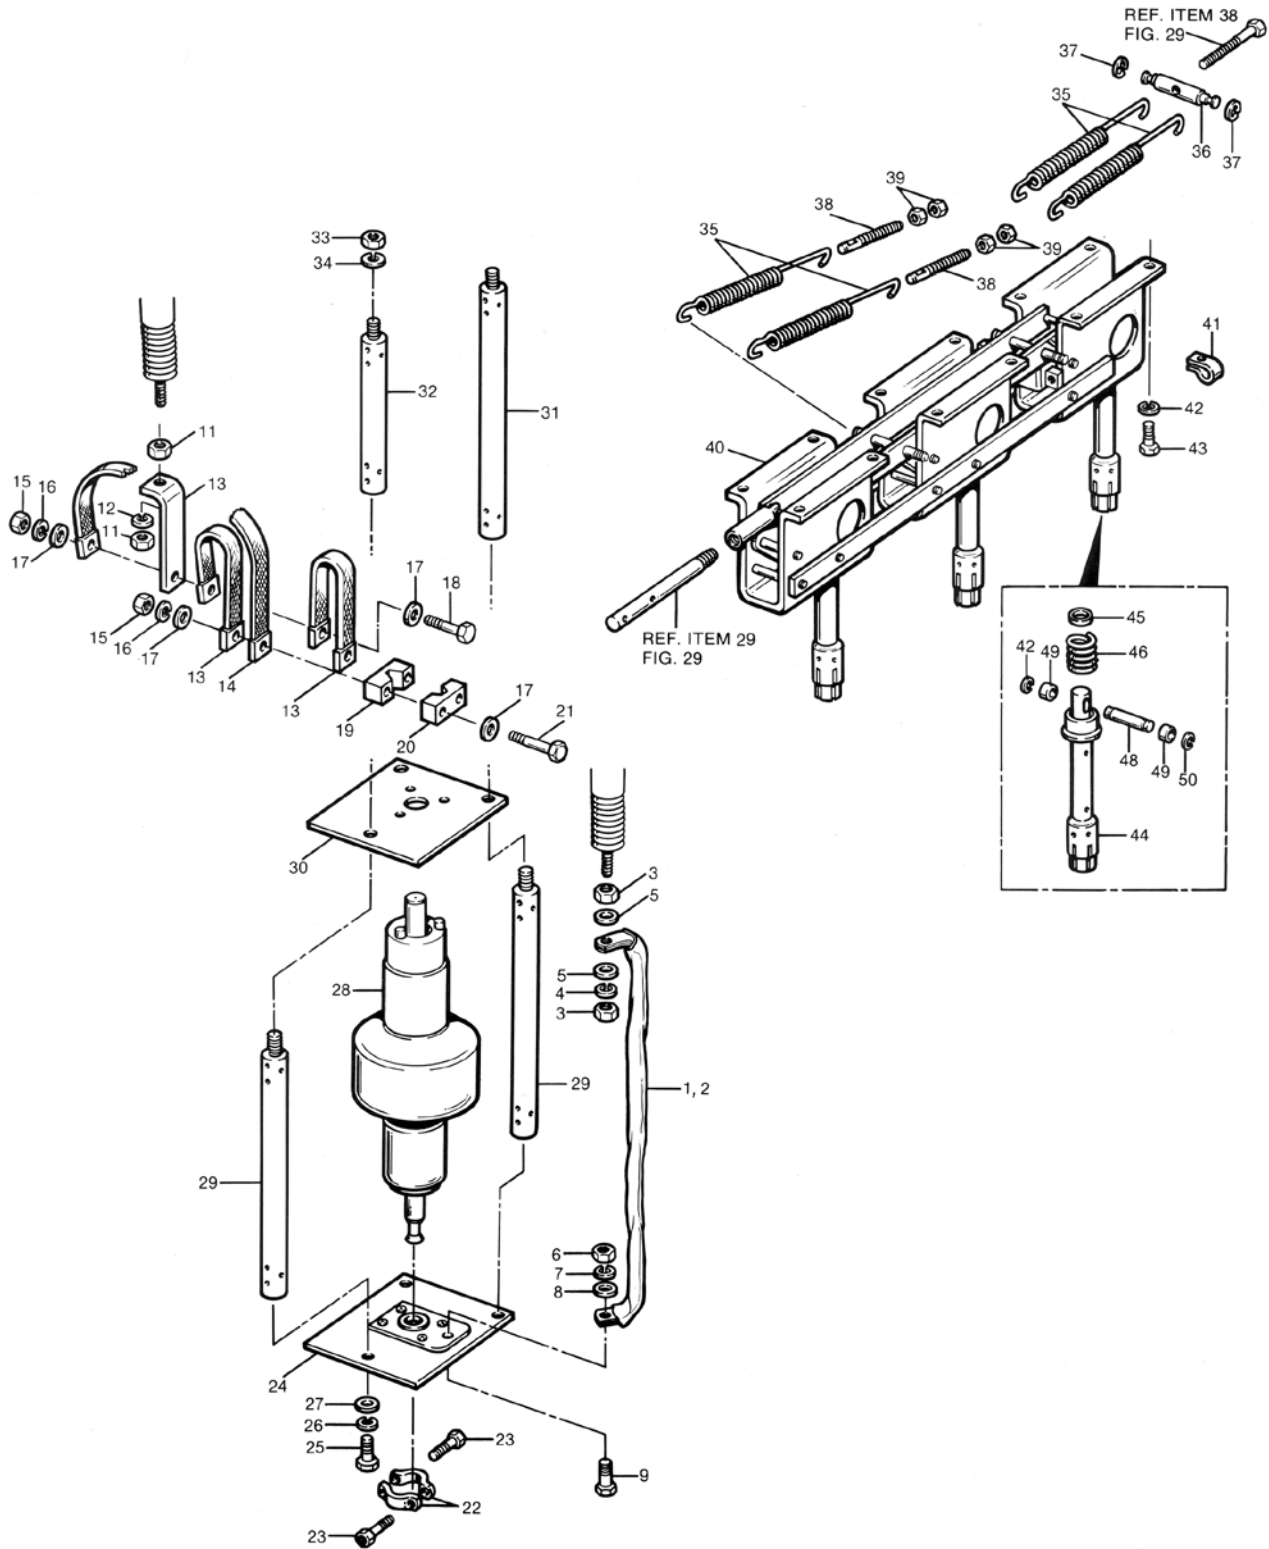

Figure 30. Interrupter mechanism parts group
**Interrupter mechanism parts group (Figure 30)**